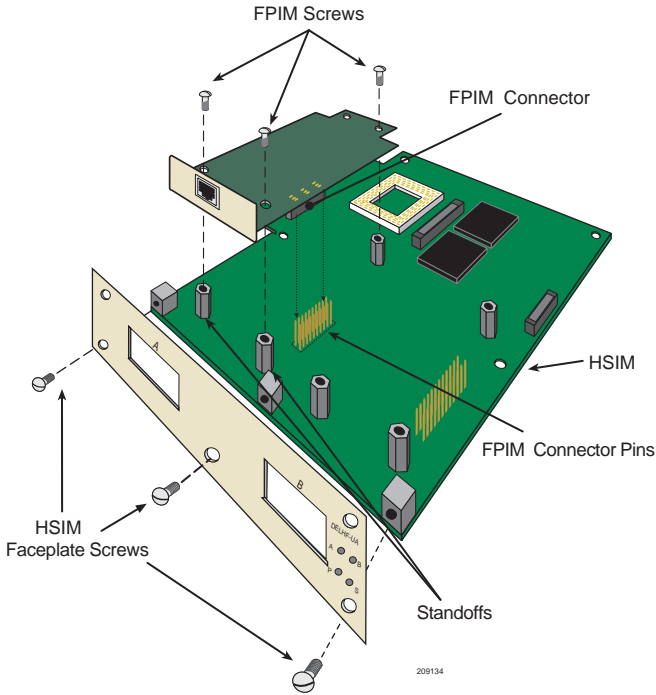

Figure 2-2 Installing FPIMs
3. Refer to Figure 2-2 and remove the three faceplate screws attaching the faceplate to the DELHF-UA. Save the screws.